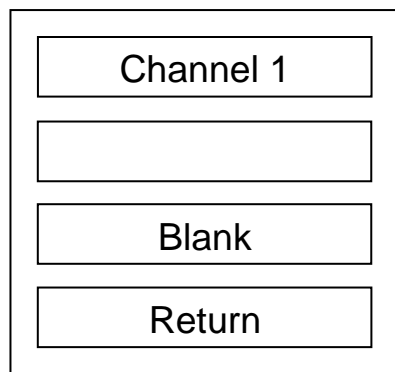

Figure 3. **Calibrate** screen
- c. Now you enter the “**Calibrate**” screen similar to Fig. 3. Put in the Blank tube in the sample chamber and close the cap. Touch “**Blank**” to take the blank value.